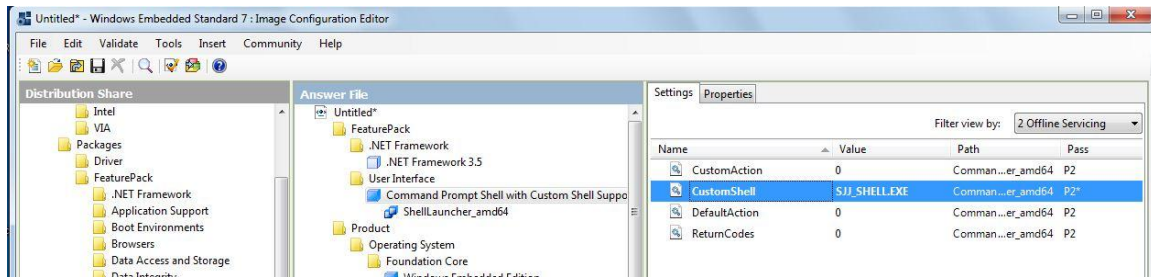

Figure 5-10 - Set CustomShell Setting to SHH_SHELL.EXE
- Click on the Value of the CustomShell setting, and change “cmd.exe” to “SJJ_SHELL.exe”, Figure 5-10.